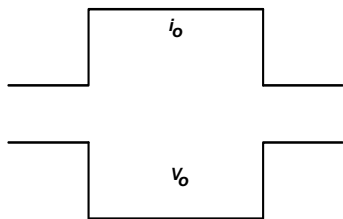
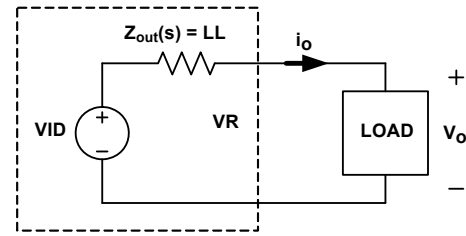

FIGURE 20. DESIRED LOAD TRANSIENT RESPONSE WAVEFORMS
FIGURE 26. VOLTAGE REGULATOR EQUIVALENT CIRCUIT
Assuming the compensator design is correct, Figure 20 shows the expected load transient response waveforms if C_n is correctly selected. When the load current I_{core} has a square change, the output voltage V_{core} also has a square response.
Figure 20 shows the desired load transient response waveforms. Figure 26 shows the equivalent circuit of a Voltage Regulator (VR) with the droop function. A VR is equivalent to a voltage